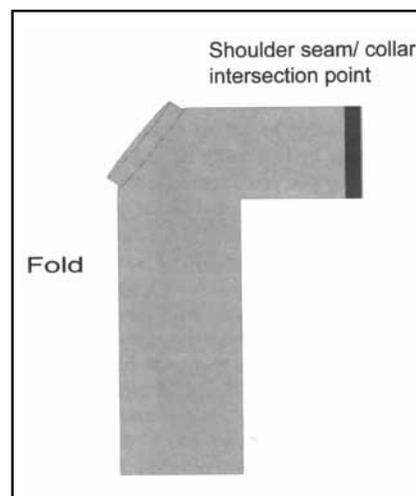

Fig. 2
- Fig. 2.** Starting back at the top on the shoulder seam/collar intersection, measure down how far you wish the embroidery to be from the garment top, usually around 7 inches for adults. Measure over 1 to 3 inches to the right (see the hints above) and put a mark for the center point of your embroidery for left breast placement. An alternate way of measuring is to measure over from the center front fold 4" to 6" and 6" to 8" down from the shoulder seam.